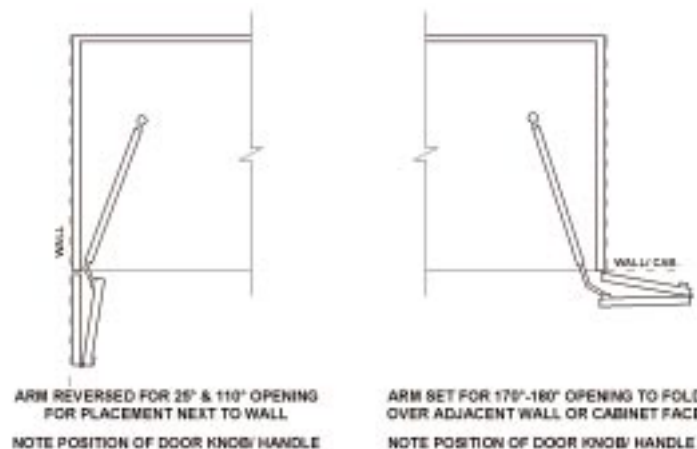

FIGURE 4A
**ADVANTAGES:** Can be used in corner cabinets to improve access or under sinks or cooktops to create a storage/knee space for a seated cook. Allows door to open in approximately half the traditional space, increasing clear floor space for access (Fig. 4a and 4b).